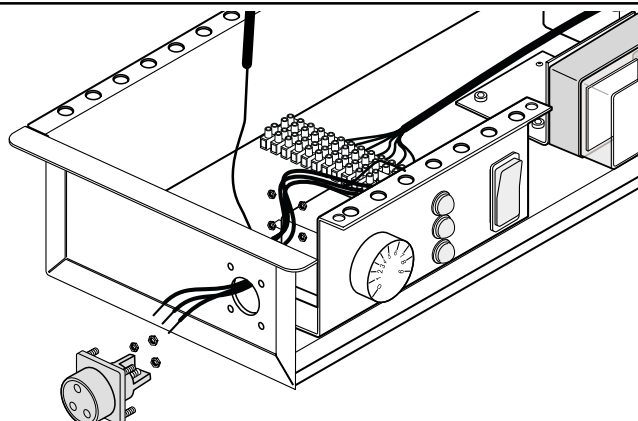

FIG. 19
- 7:1 TO REMOVE THE POWER INPUT SOCKET, UNSCREW THE 3 POWER RING TERMINALS/ WIRES FROM THE SOCKET, AND THEN UNSCREW THE 4 NUTS HOLDING THE SOCKET IN PLACE (FIG. 19). REPLACE WITH A NEW ITEM, REFIT REVERSING THE REMOVAL PROCEDURE.